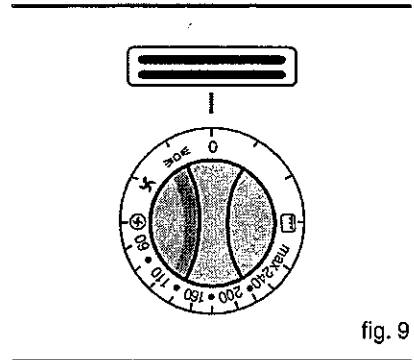

fig. 9
- As the oven knob is turned clockwise, it encounters the following symbols (Fig. 9).